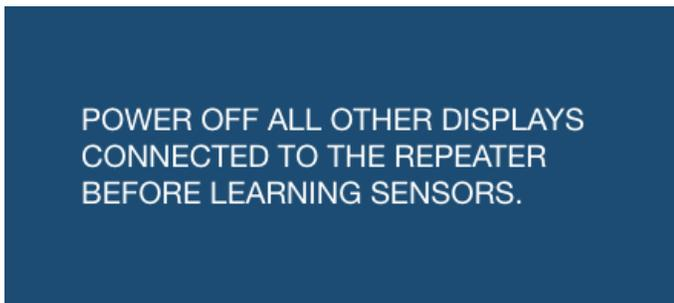

Fig.20
3. A notification will appear on the display for 5 seconds (Fig.20) instructing you to turn off all other displays connected to your repeater before automatically transitioning to the notifications received before sensor learning takes place.